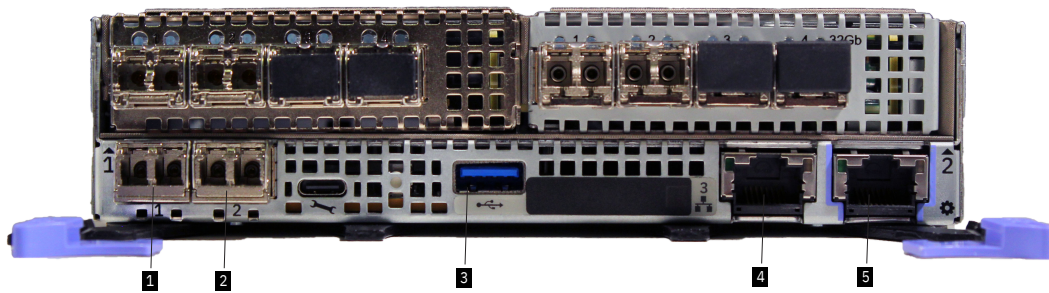

Figure 50. Ethernet ports on a canister
1. Connect Ethernet port 3 of both node canisters to the IP network that provides connection to the system management interfaces, as shown in Figure 50 on page 91.